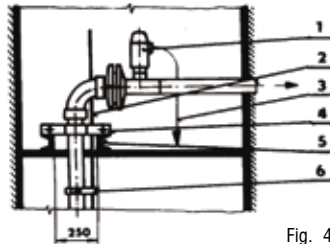
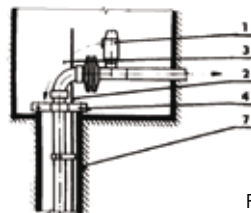

Fig. 4
Fig. 5
3. To suspend the pump set together with pipeline into a dug well it is necessary to prepare and wall in steel transverse girders (Fig. 4) so as they are able to accept load safely. It is recommended to place the girders so as they do not prevent access into the well. As for dug wells, it is necessary to lean the assembly clip against the casing upper edge that must be in the same depth as pipeline outside the well. In such a case it is useful to extend the borehole in its diameter up to the required depth and make well casing with the aid of big centres, as with dug wells (Fig. 5).